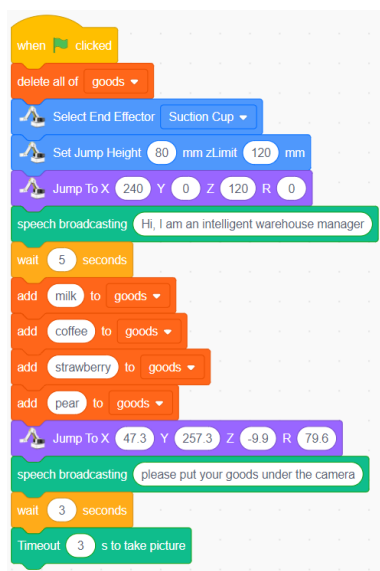

Figure 1.10 Get the text on the goods card
Step 5: Obtain goods information. The robot moves above the goods recognition area, then automatically takes photos to obtain goods data and recognize name, as shown in Figure 1.10.